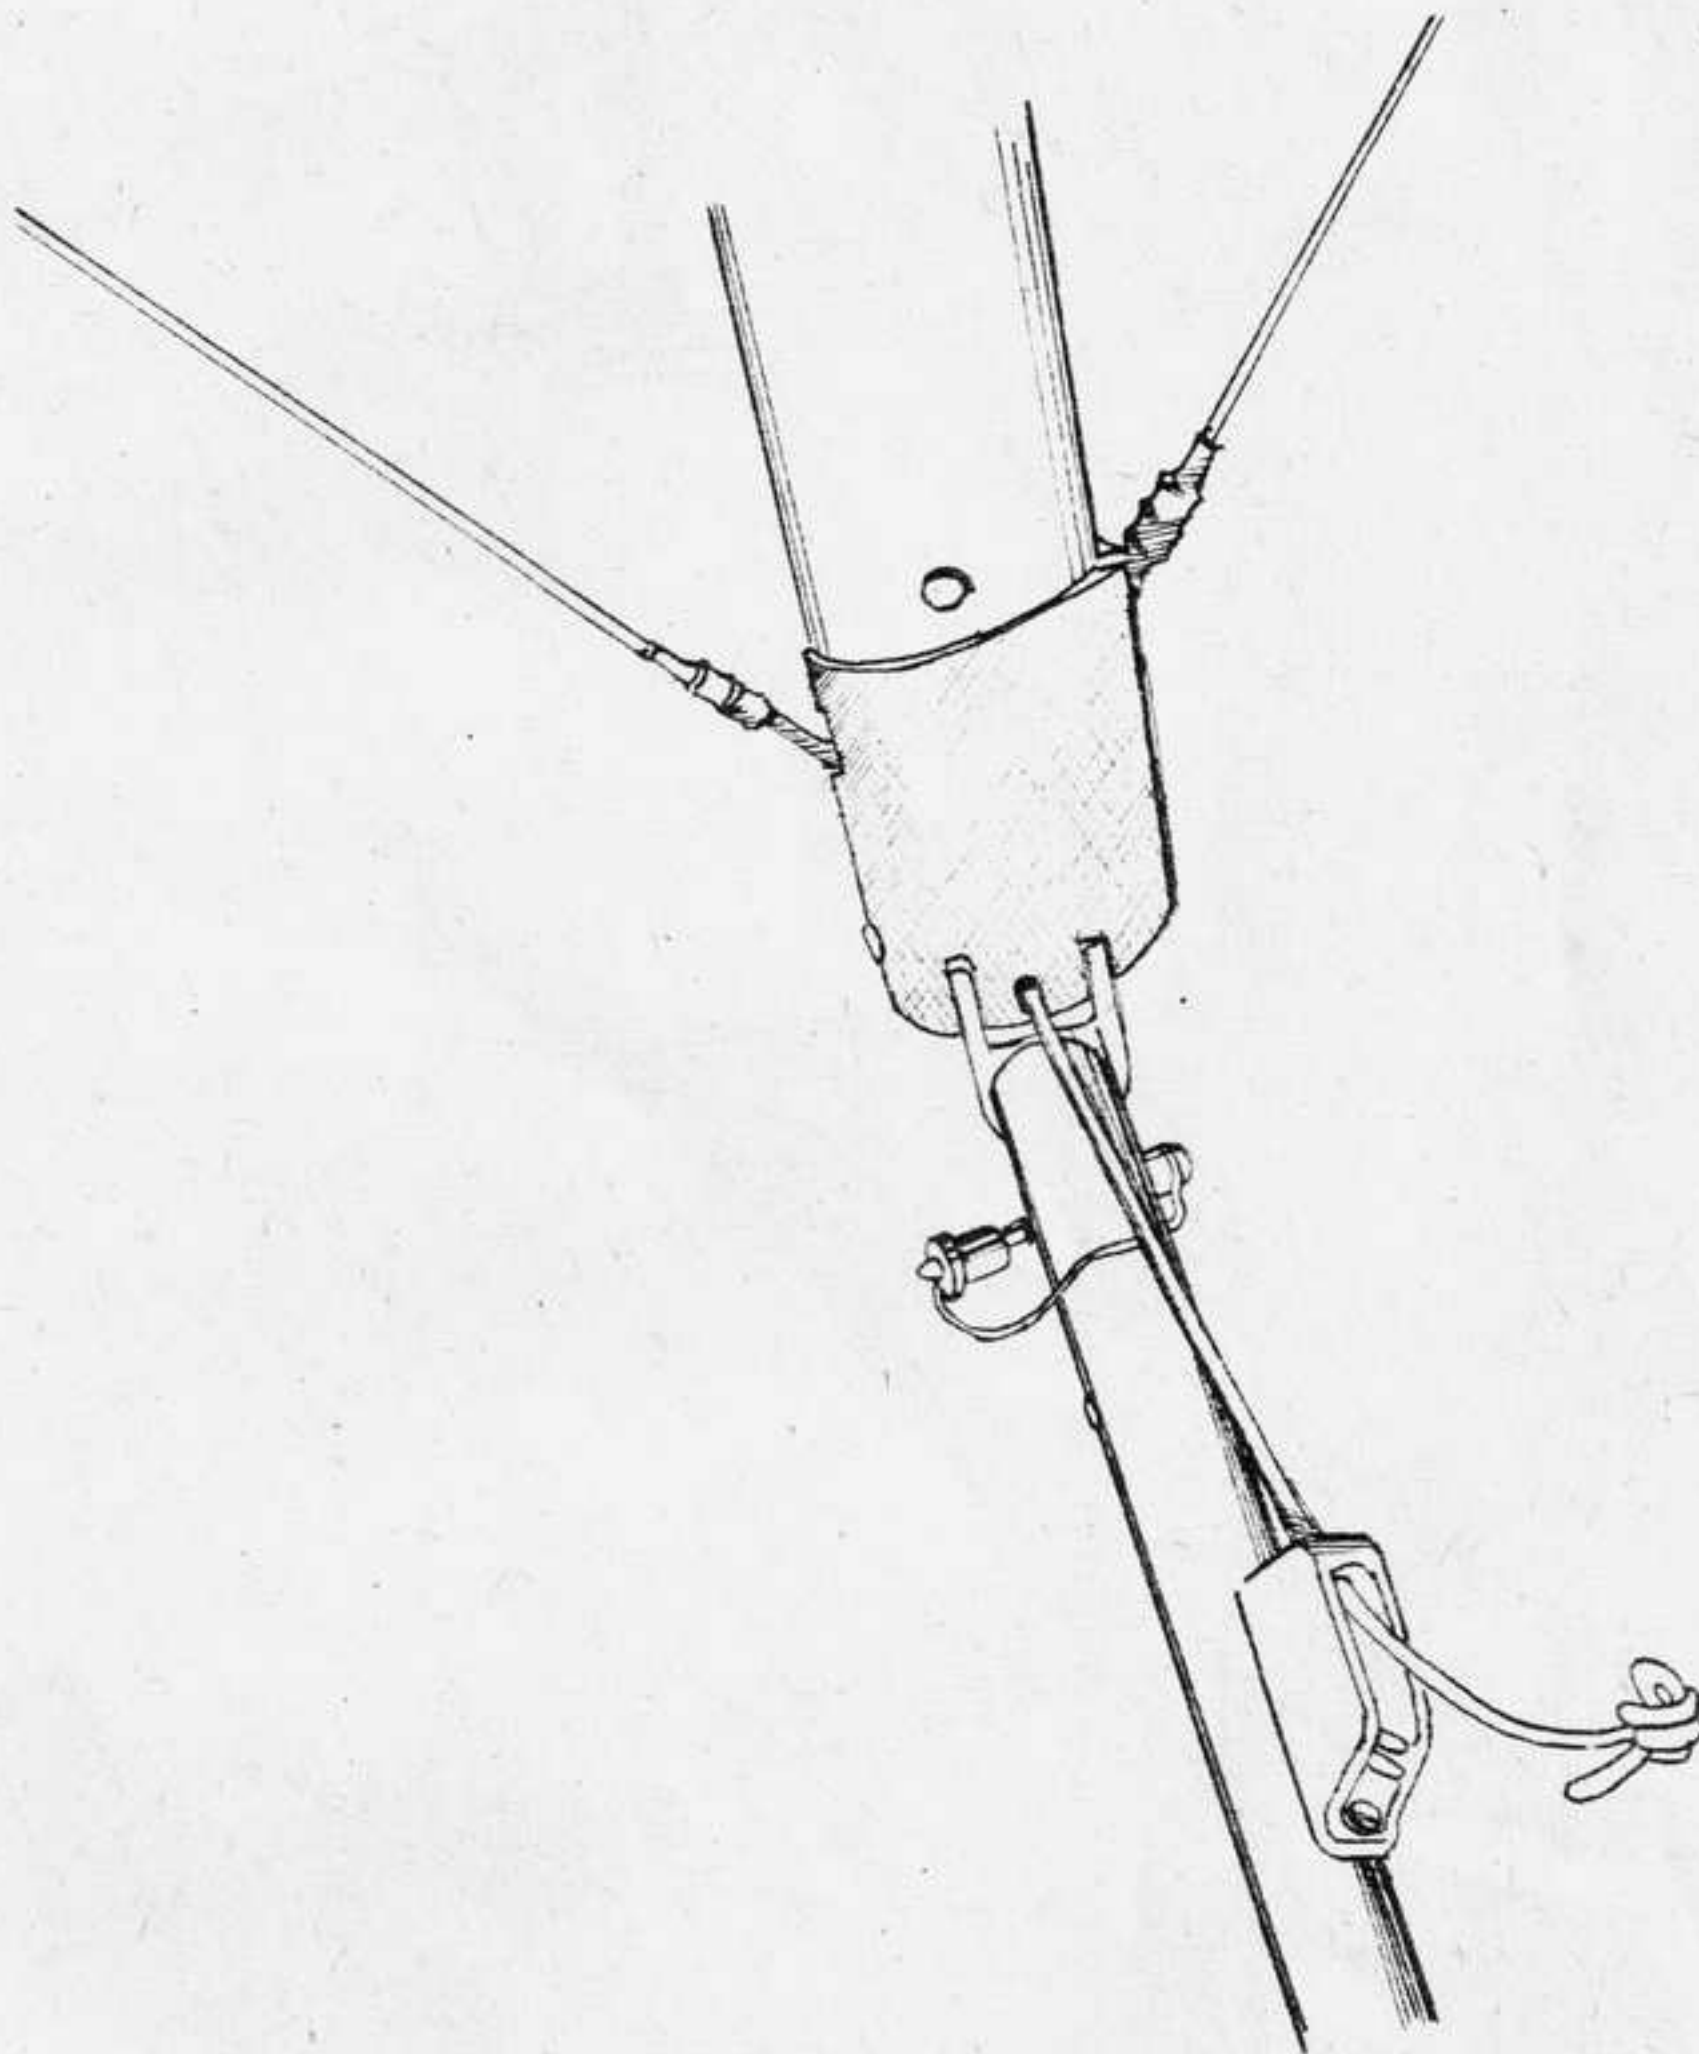

Fig.1
2.1.1. Remove the speedbar from the bag 6 meters long, spread the downtubes. Install the speedbar so that off-set of the speedbar is directed forward in the direction of the flight. Fix the speedbar using the quick-pins. Pass the VG-rope through the stopper, make a knot on the end of the rope (fig.1).